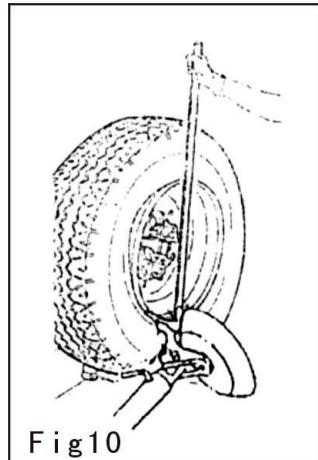

Fig10
1) Push the tool rack (9) to the non operation position outside of the wheel. Secure the nose tool point to the tire or detach the positioning handle (14). Rotate the tool head by 180° and then lower down it to hook the bracket.
2) Control operation switch and adjust the position of the nose tool (13) to the tire. Move it in between the tire and rim and insert into the edge of the tire to hook the tire.
6) Press downwards the crowbar and lower the wheel until the distance from the rim of the wheel to the nose tool is 5mm as Fig 10